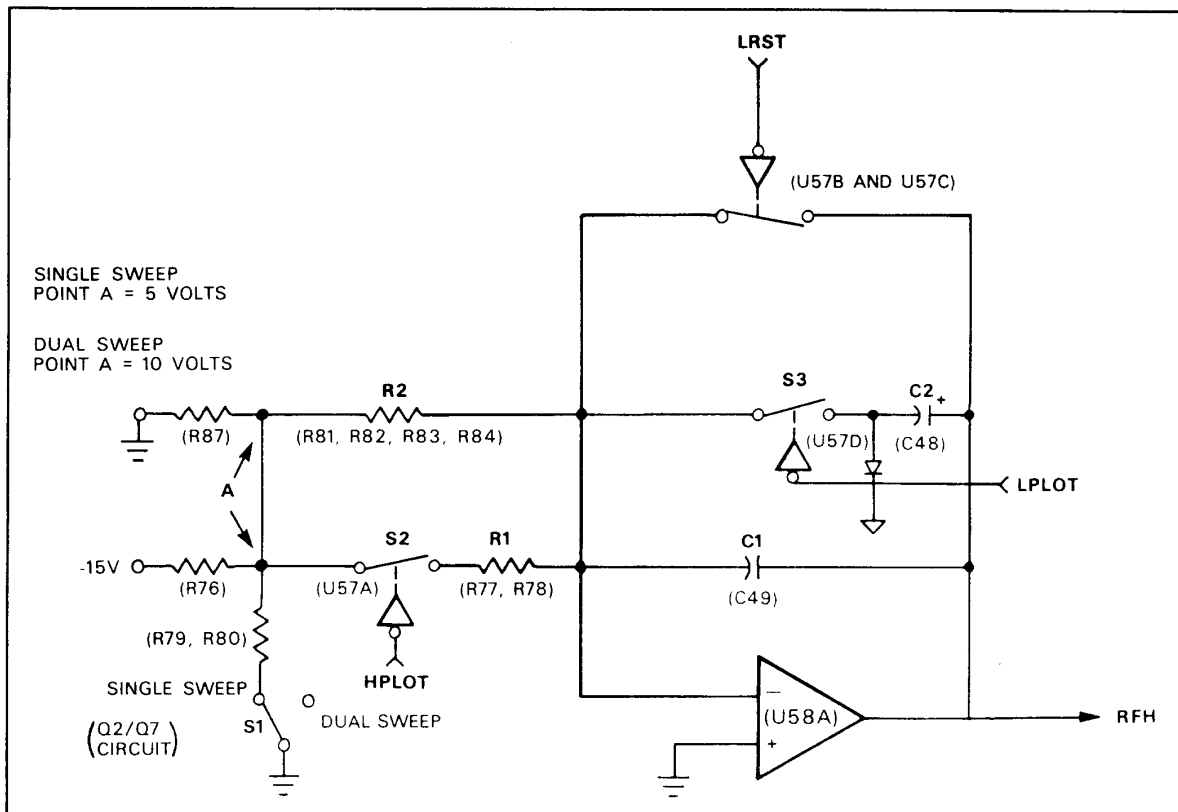
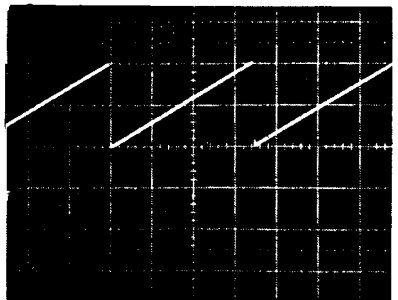

Figure 7-76. Refresh Ramp Generator Circuit, Simplified Schematic Diagram
Figure 7-79. Digital (A2) PCB Refresh Ramp Generator; Vertical Output; and Marker Input, Marker Output, etc. Parts Locator Diagram
is shown in Figure 7-76, a parts locator diagram is shown in Figure 7-79, and the full schematic is shown in Figure 7-80. In the simplified schematic, the component reference designators enclosed in parenthesis relate to the actual circuit components.
The refresh ramp generator (Figure 7-76) uses different combinations of voltage, resistance, and capacitance to develop the four output ramps. In the refresh mode (both single and dual-channel), S3 is open and S2 is closed, placing resistances R1 and R2 in parallel. In the refresh, single-channel mode, S1 is closed, placing -5 volts at point A. In the refresh, dual-channel mode, S1 is open, placing 10 volts at point A. In the X-Y plot/refresh mode (either single or dual-channel), S1 is open, S2 is open, and S3 is closed. This places -10 volts at point A and capacitors C1 and C2
(1) they sum the vertical output signal, either real time or refresh, with both a reference voltage from the REF POS SET potentiometer and with markers, and
(2) they route the vertical output signal to the CRT vertical deflection circuits, GPIB interface (A6) PCB, and rear panel VERTICAL OUTPUT connector. The vertical output circuits, which are located on both the A1 and the A2 PCBs, are described using the block diagram in Figure 7-77. This block diagram indicates the figure number of the schematic where the circuits are diagrammed. To correlate between the blocks on the block diagram and the circuits on the schematic, use the mnemonic symbols; these symbols, which identify control lines, point to the circuits. A parts locator diagram for the Vertical Output circuits is presented in Figure 7-79.
These circuits are shown in the block diagram of Figure 7-78. This block diagram indicates the figure number where the actual circuits are diagrammed. The circuit descriptions given below are referenced to the block diagram. Use the mnemonic symbols to correlate between the block diagram and the schematic. The mnemonic symbols indicating control and signal lines point to circuit components. A parts locator diagram for these circuits is presented in Figure 7-79.